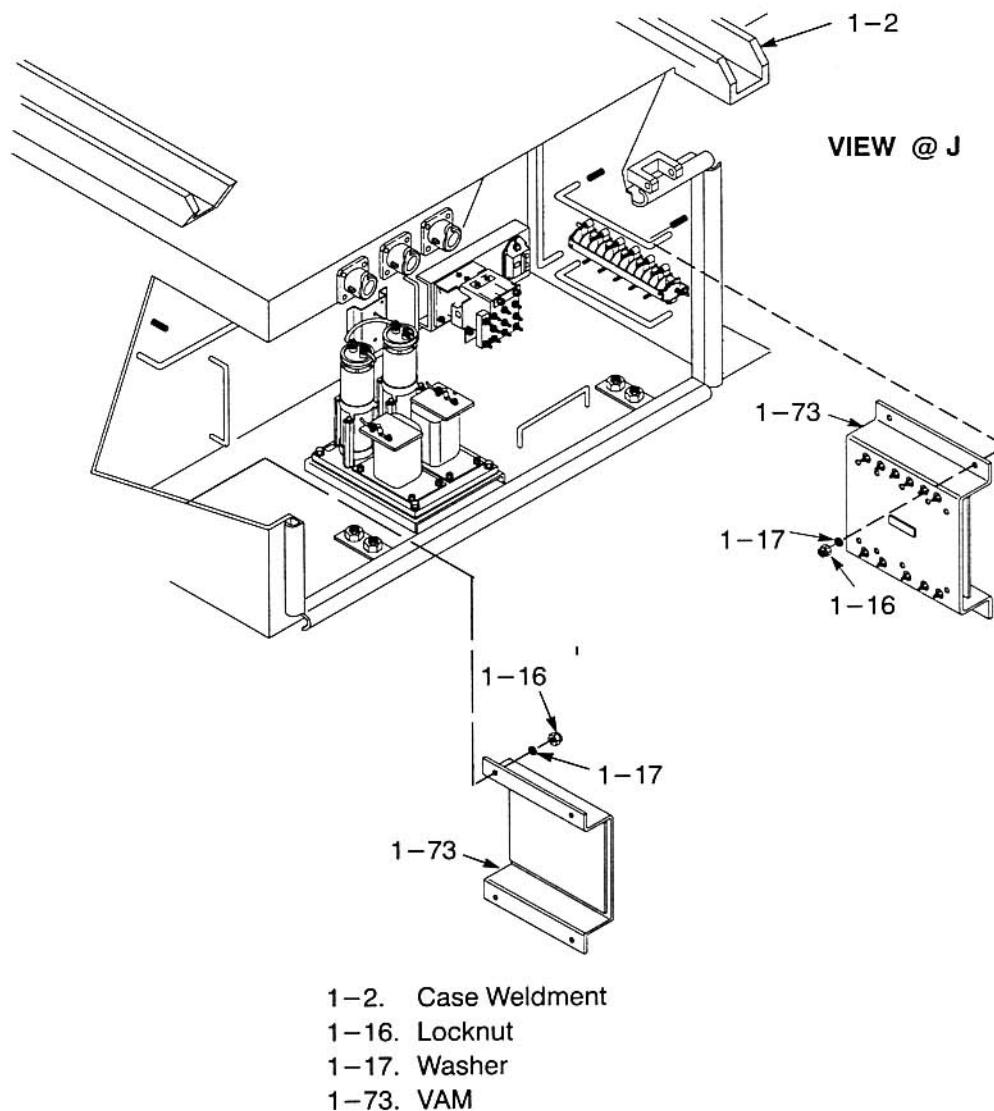

Figure 7-119 Remove/Install Voltage Attenuation Module (17FM560A1)
- b. Remove/install hardware (1-16, 1-17, Figure 7-119) which secures module (1-73) to the case weldment (1-2). Torque hardware to 74–83 in. lbs.